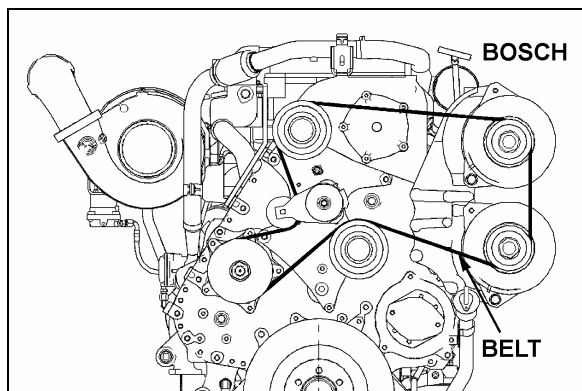

FIGURE 20: ALTERNATOR DRIVE BELT
1. Insert a $\frac{3}{4}$ " socket drive into the tensioning arm opening (Fig. 20).